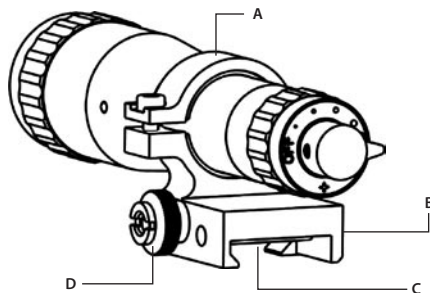

FIGURE 3-13. IR850 ILLUMINATOR
The IR850 (**Figure 3-13**) is delivered ready-assembled with a dedicated mount, to be installed on the Weaver rail of the CO-MINI. The mount clamp (A) has a spherical hinge that allows the operator to tilt the IR850 as desired.